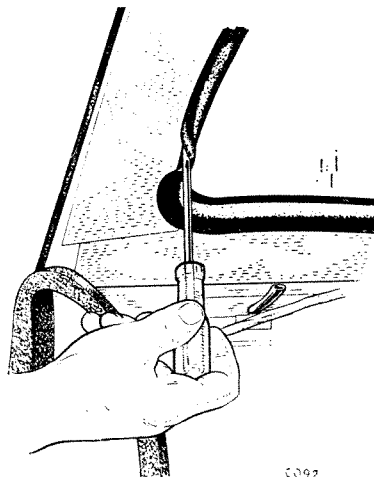

Fig. 23. Removing trim panel
Using a screwdriver, as shown in Fig. 23, lift the edge of the backlight weatherstrip and remove the trim panels concealing the nuts (29) and studs (25) shown on Fig. 24.